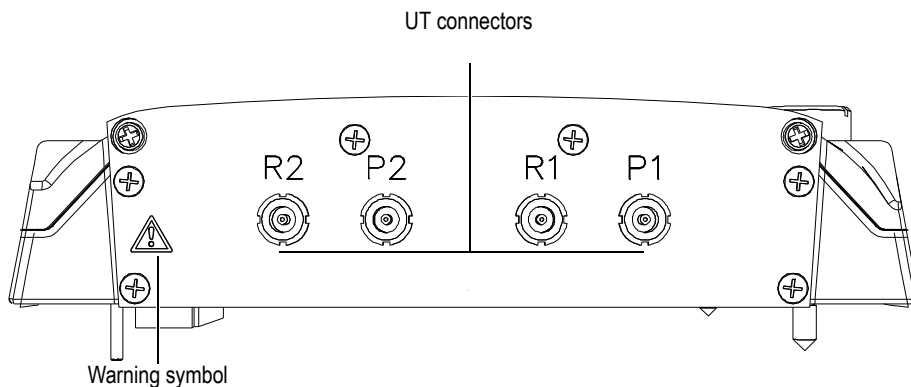

Figure O-1 Module side view
- To reduce the risk of electric shock, avoid touching the inner conductor of the LEMO connectors. Up to 340 V can be present on the inner conductor of the UT connectors. The warning symbol near the LEMO connectors signals this electric shock risk (see Figure O-1 on page 195).